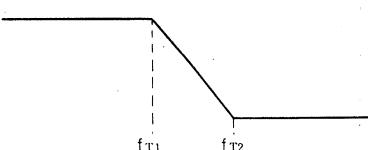

Fig. 6 Anti-saturation Network
- b) Anti-saturation network (Refer to Fig. 6)